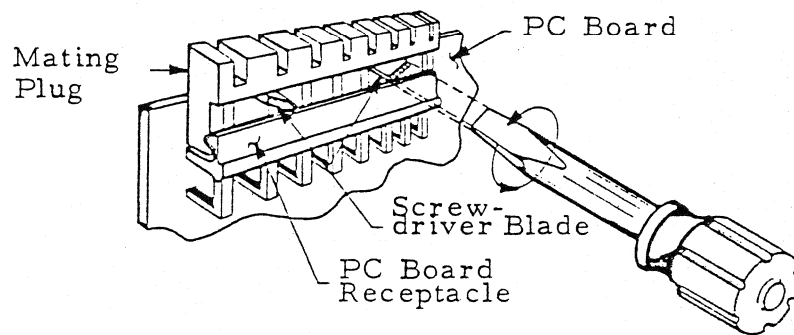

FIGURE 5-1. MODULE CONNECTOR REMOVAL
- 2) Disconnect module top edge connectors. Use a wide blade screwdriver if necessary per Figure 5-1.